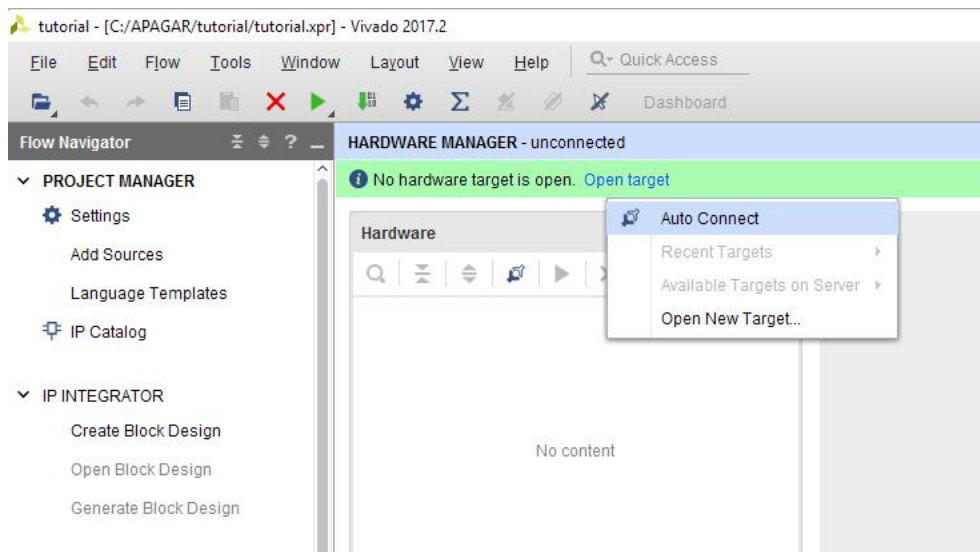

Figure 37
6. In the top left of the new **Hardware Manager** window, select **Open target** → **Auto Connect** (Figure 37)